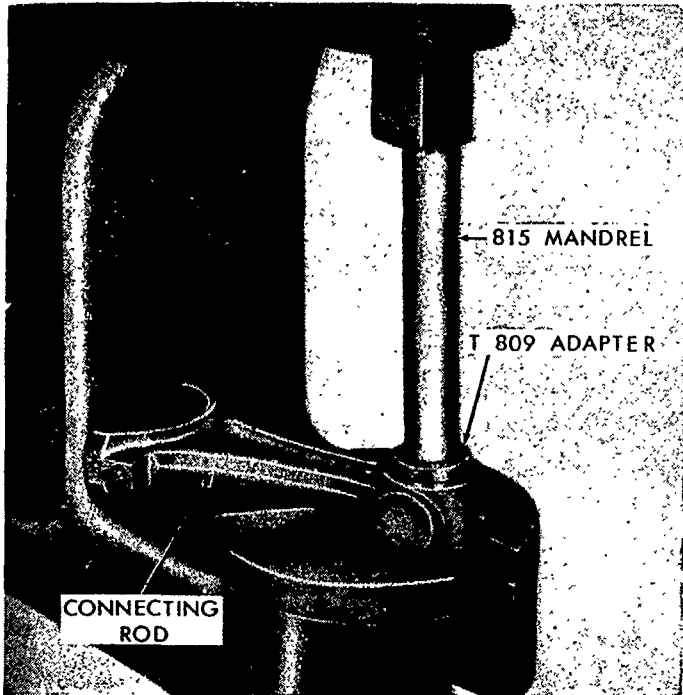

Figure 50
1. Remove the connecting rod bushing from the connecting rod with Driving Mandrel No. 815, Adapter No. T-809, and an arbor press, Figure 50.